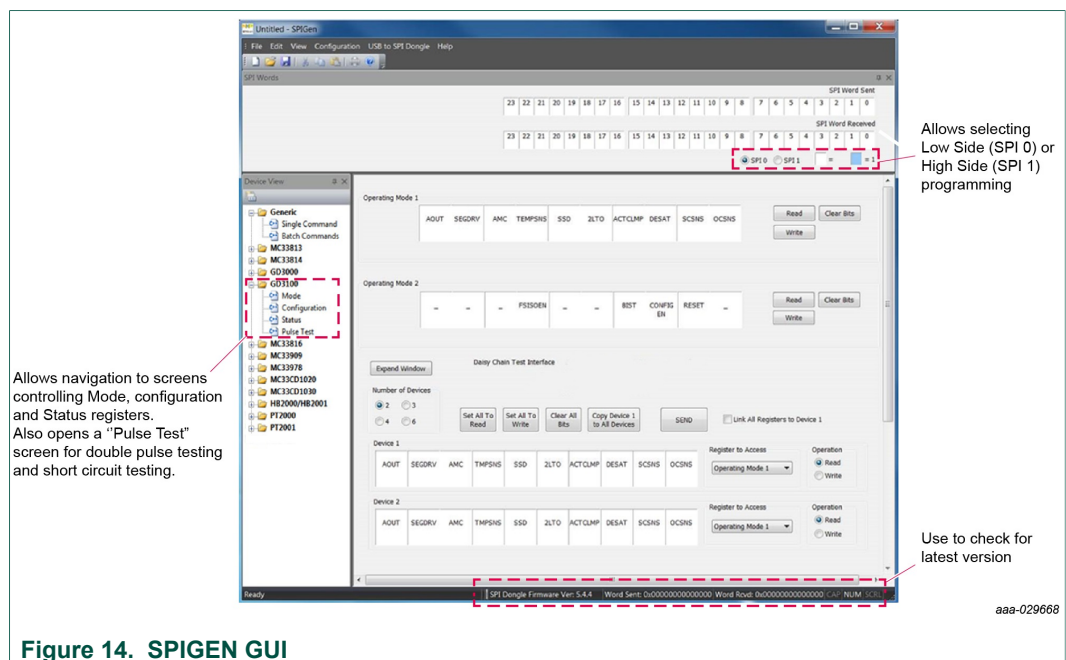

Figure 14. SPIGEN GUI
- a. Selecting SPI0 communicates with low-side gate drive device and SPI1 communicates with high-side gate drive device (see Figure 14).
See Figure 14 for SPIGEN Graphical User Interface for MC33GD3100 internal register read and write access. It also includes the daisy chain read and write access when configured for daisy chain operation on certain MC33GD3100 registers.